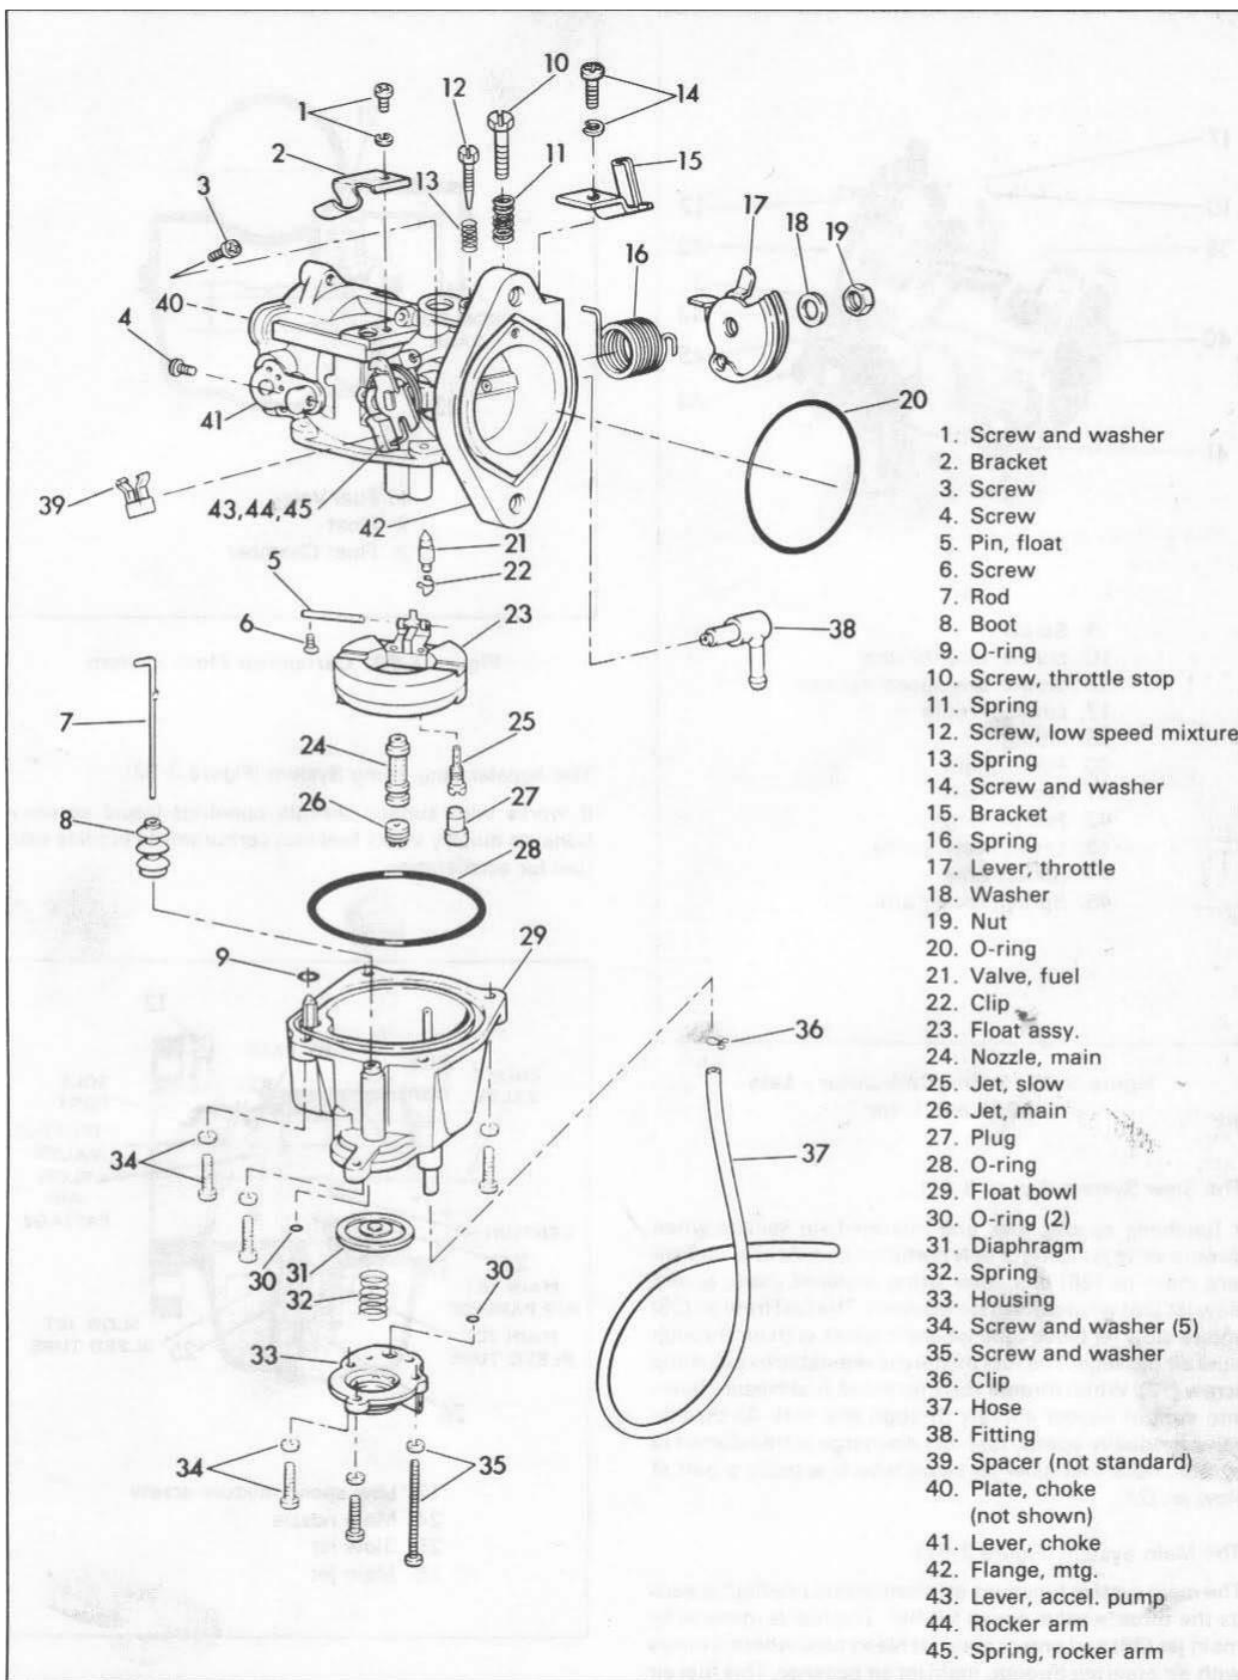

Figure 3-78. Keihin Carburetor - Exploded View - Late 1976 and Later Models
DISASSEMBLING (Figure 3-78)
CLEANING AND INSPECTING (Figure 3-78)
ASSEMBLING CARBURETOR (Figure 3-78)
Mount the carburetor on the motorcycle as follows. Check O-ring (30), Figure 3-78, on the mounting flange to see that it is okay and in its groove. Position carburetor on two engine mounting studs and secure with nuts and washers.
(Refer to Figure 3-78)